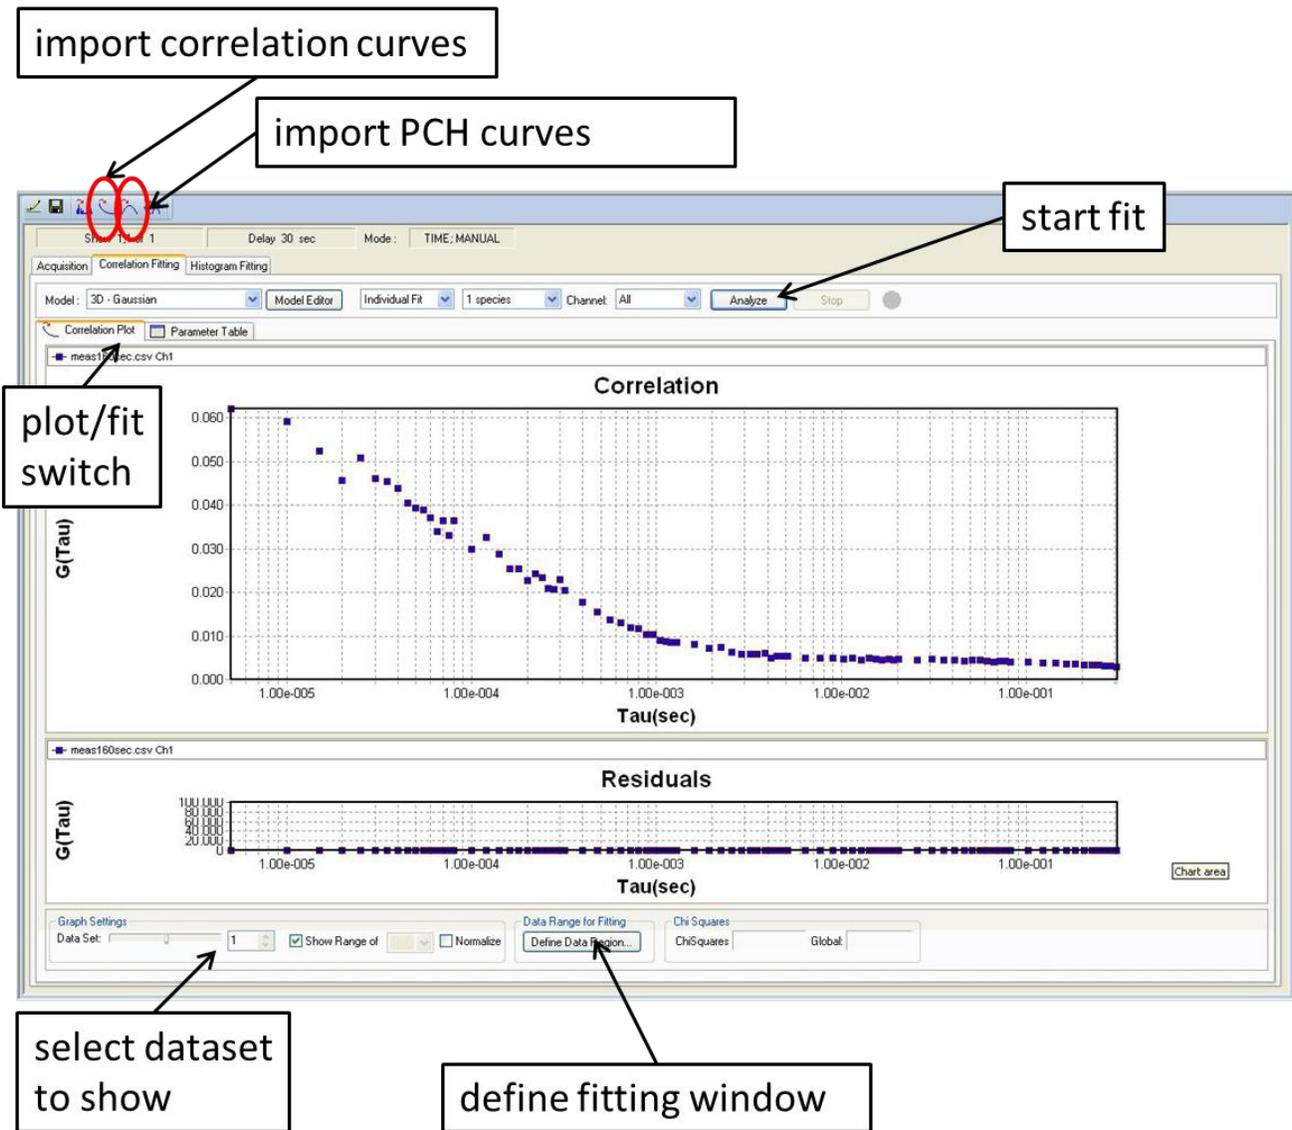

Fig. 10: FCS workspace – correlation plot
14. From the main menu, open a FCS file. An 'open' window shows up. Click cancel. Click on the 'import icon shown in **Fig. 10**. Select the file(s) and import
21. Use the save icon in this window (**Figs 10 & 11**) to save the fitting results